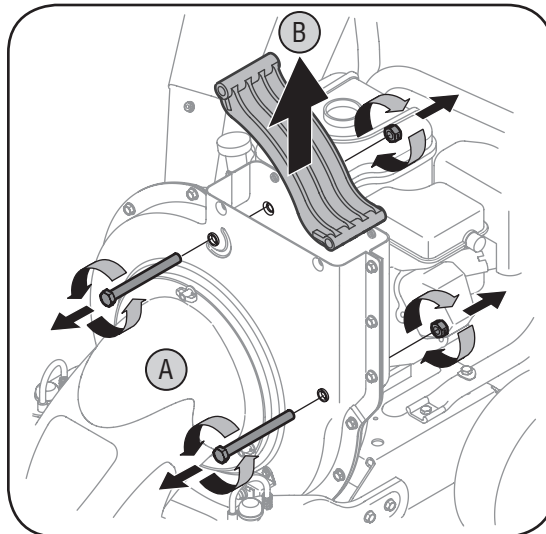

Figure 5-4
- b. Lift the flail screen from inside the housing. See Figure 5-4.